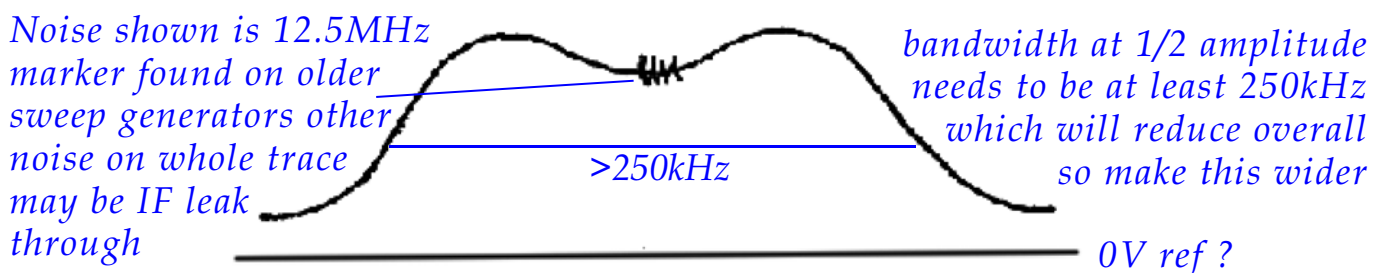

Figure.1
6. Disconnect aerial and reconnect generator leads as outlined in paragraph 3. (General) and adjust 2nd IFT for best shape (see diagram under 1 above). *Figure.1*